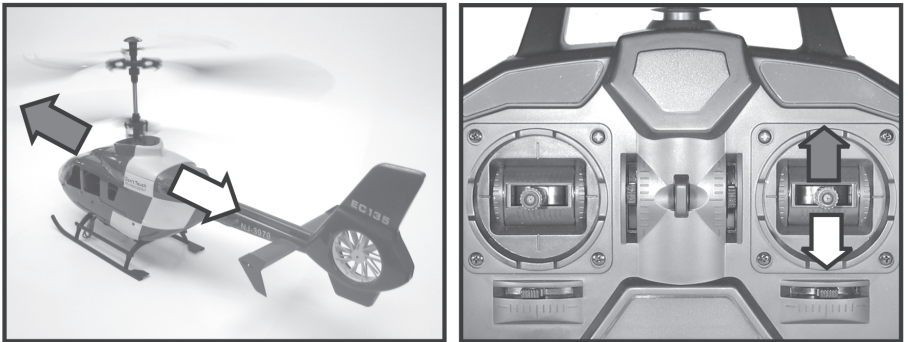

Figure 12
The nod function allows you to move your model helicopter forward and backward (see figure 12). This is also controlled with the right control lever (also see figure 1, item 3).